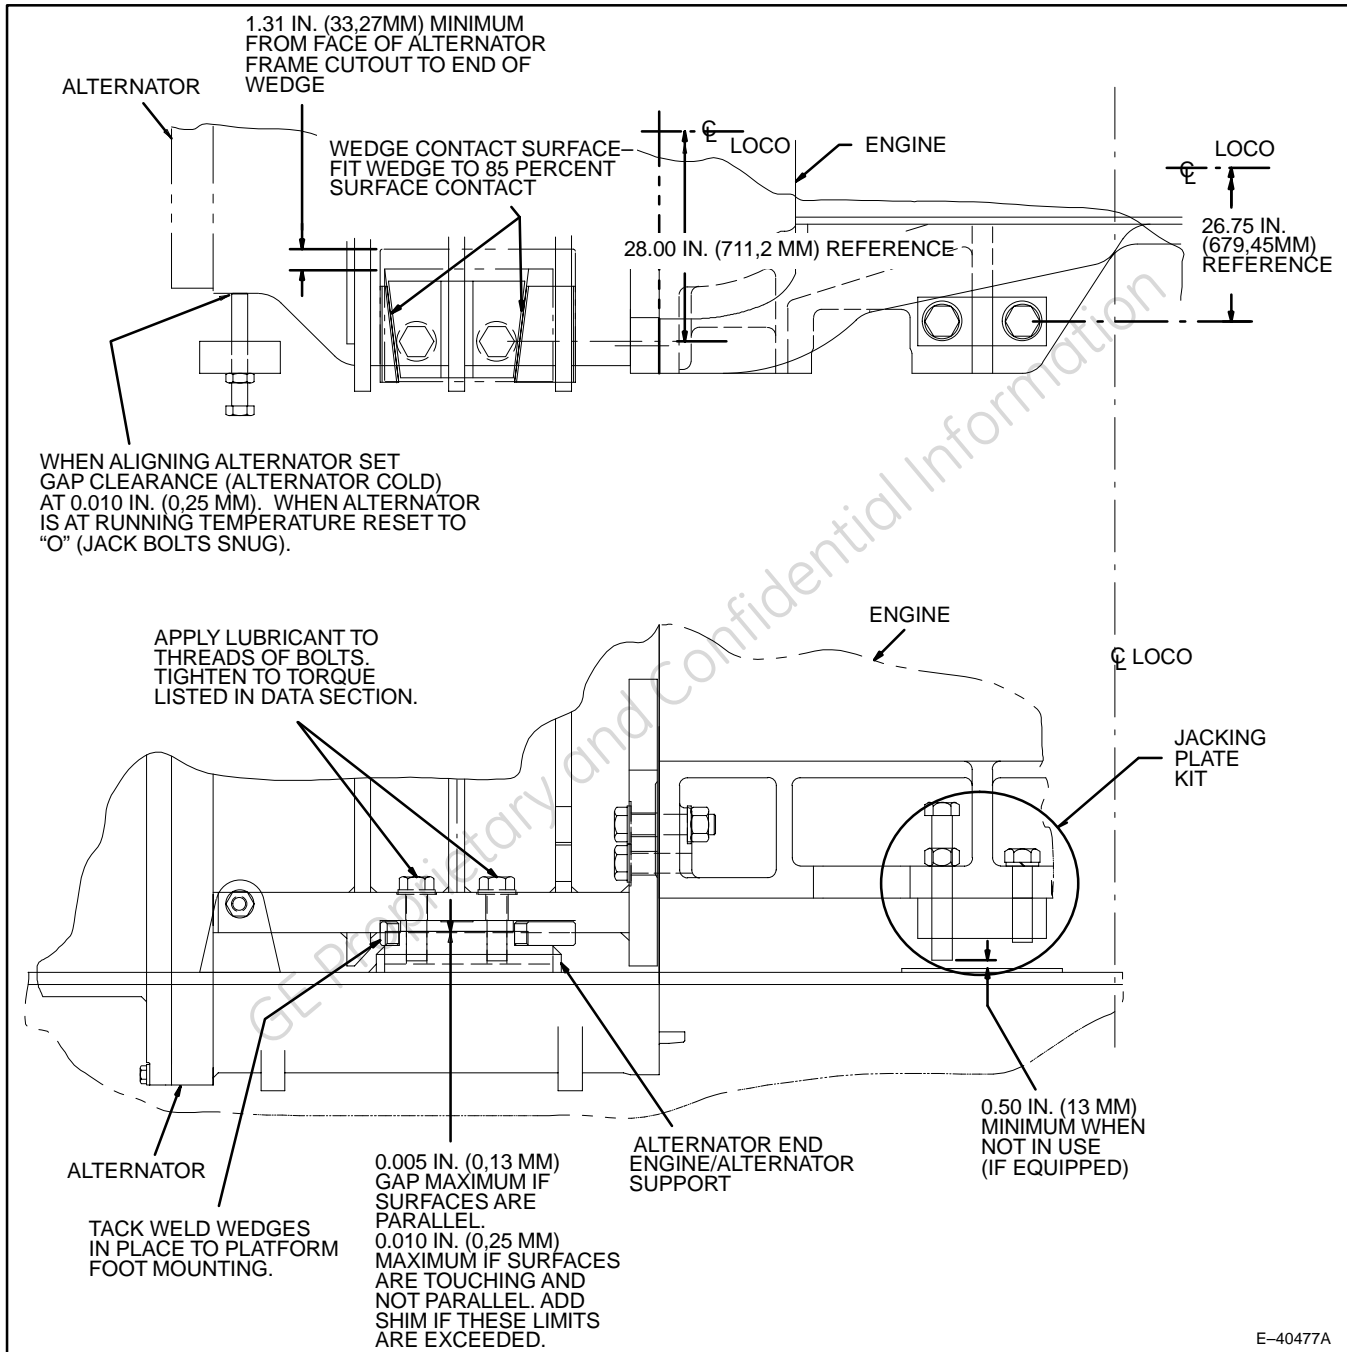

Figure 51. Engine And Alternator Mounting Arrangement, Alternator End.
6. Remove the engine and alternator hold-down bolts. Back off the horizontal jacking bolts several turns. Break the tack-welds, and remove the wedges located in each of the pads at the alternator (Figure 51).
4. **If Jacking Plate Kit (GE Part No. 84D709334) is present** on both sides of the engine (Figure 51), lower the vertical jack bolts at the alternator end of the engine until they contact the pads on the platform.
5. **If Jacking Plate Kit (GE Part No. 84D709334) is NOT present** on both sides of the engine (Figure 51), install the kit (plates, bolts, lockwashers and hex nuts) as shown in Figure 51. After installing the kit, lower the vertical jack bolts at the alternator end of the engine until they contact the pads on the platform.